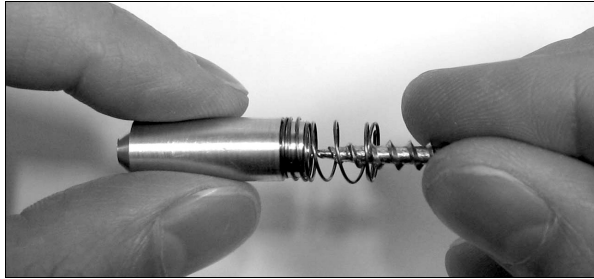

Fig. 7
2. Insert the #7 x 1 5/8" drywall screw (only one supplied) into center of the **long** rear tamper actuator (Fig. 7).